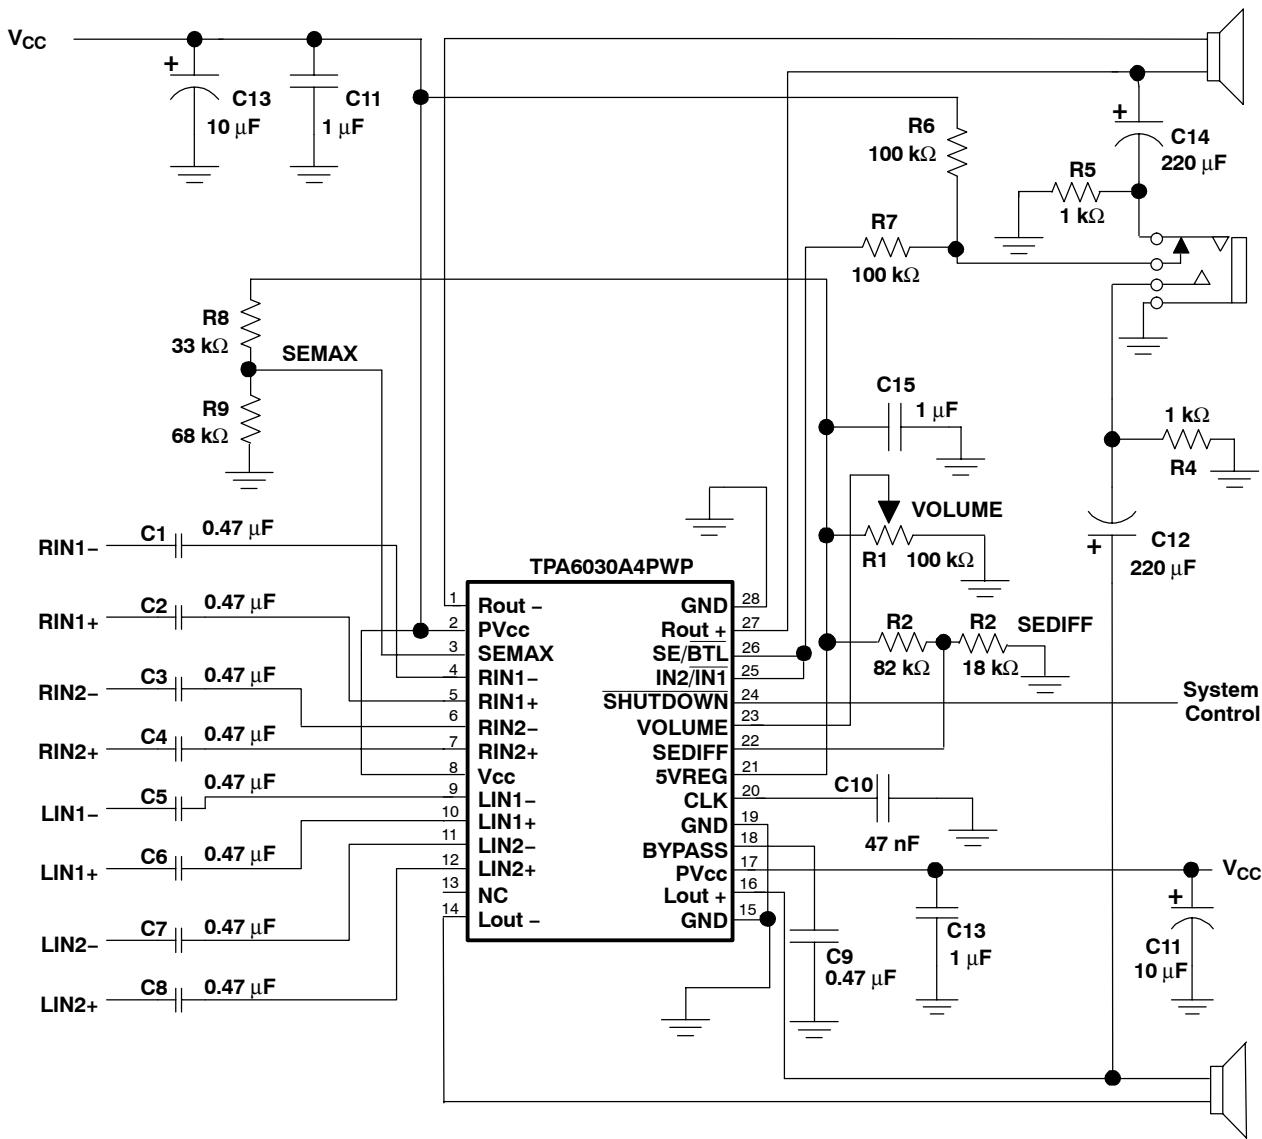

Figure 22. Typical Application Circuit for an LCD Monitor
The circuit shown in Figure 22 automatically switches between headphone outputs and speaker outputs when a headphone plug is inserted or removed from the headphone jack. Additionally, this circuit uses resistor divider networks to limit the headphone volume. Resistors R8 and R9 form a divider network that applies 67% of 5VREF to the SEMAX pin, which results in a maximum output of 7.2 dB. Resistors R2 and R3 form a divider network that applies 18% of 5VREF to the SEDIFF pin.
Using a readily available 1/8-in. (3.5 mm) stereo headphone jack, the control switch is closed when no plug is inserted. When closed, the parallel combination of R5 and R7 (see Figure 22) pulls the SE/BTL pin low(1), causing the device to operate in BTL mode. When a plug is inserted, the 1-k $\Omega$  resistor is disconnected and the SE/BTL input is pulled high(1). When the input goes high(1), the negative output amplifiers go into a state of high impedance, essentially open circuiting the speaker. The positive output amplifiers then drive through the output capacitor (CO) into the headphone jack.
In some applications, it may be desirable to have one input specifically for BTL operation and one input specifically for SE operation. This is accomplished by tying the SE/BTL and IN2/IN1 pins together and connecting them to a common control voltage. An example of this type of configuration can be found in Figure 22. The two pins are tied together and are connected to the resistor divider network. That network is connected to the stereo headphone jack, and is closed when no plug is inserted. This pulls both the IN2/IN1 and SE/BTL pins low, causing the amplifier to go into BTL mode using the IN1 (RIN1 and LIN1) inputs. Should a headphone plug be inserted into the headphone jack, both inputs would be pulled high, and the amplifier would be in SE mode using the IN2 inputs.